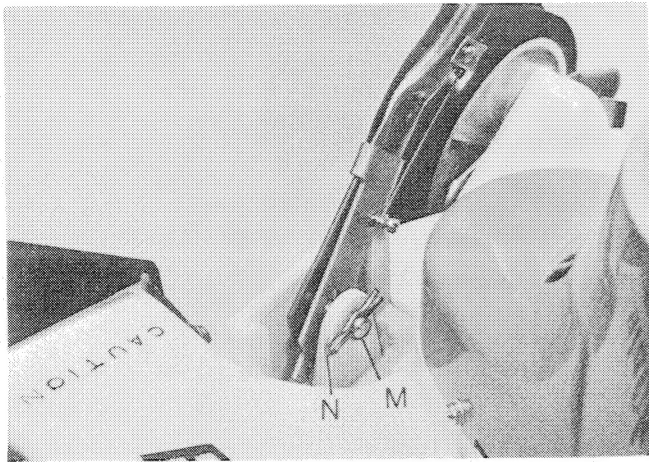
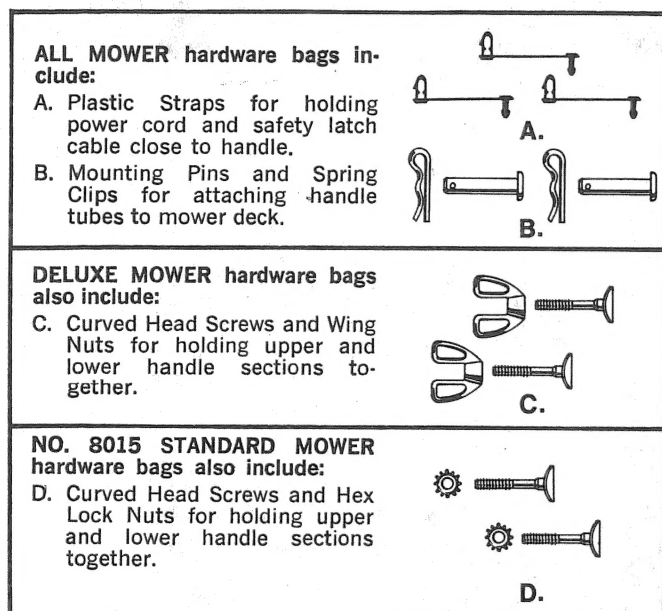
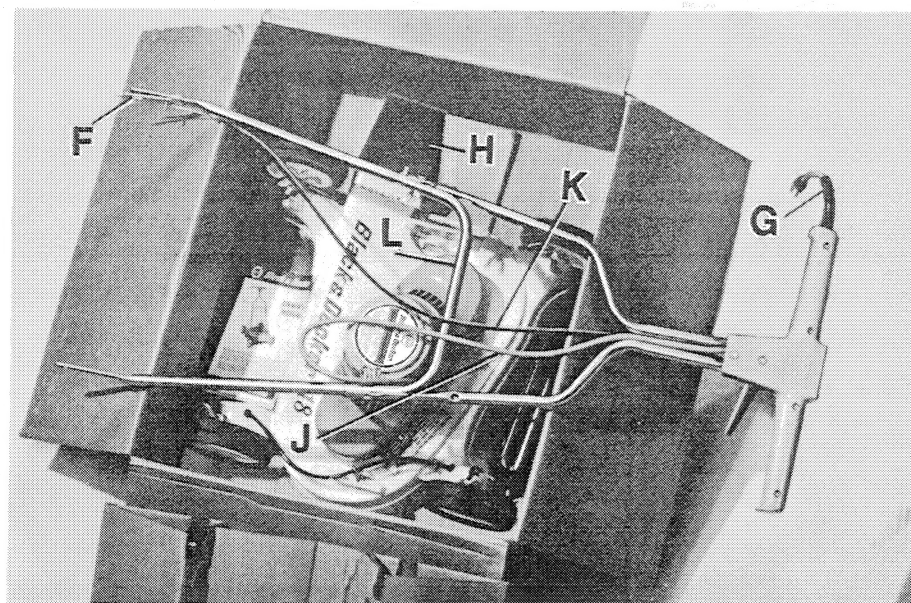
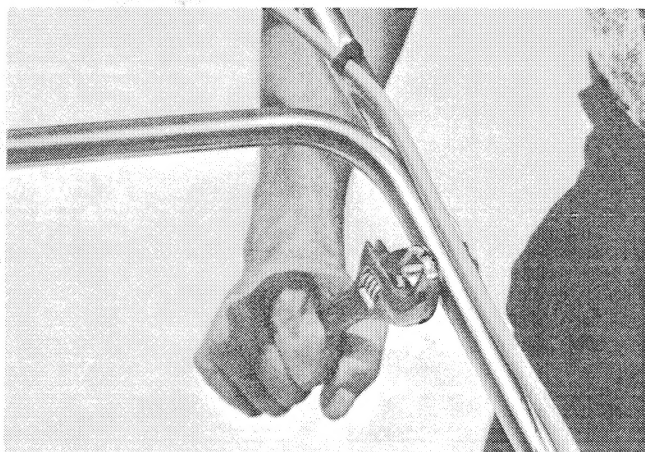

FIGURE 5
FIGURE 1
FIGURE 2
FIGURE 4
- (3) Attach handle to mower deck with 2 mounting pins "M" (Figure 5) and 2 spring clips "N". Pins and clips are item "B" in Figure 1.
- (1) Open carton and remove cardboard fillers and 2 plastic hardware bags (contents shown in Figure 1).
- (2) Without removing mower from carton, fasten upper and lower handle sections together as shown in Figures 2 & 3, with curved head bolts and wing nuts (Item "C", Figure 1).
No. 8015 MOWER ONLY — Use curved head bolts & hex nuts (Item "D", Figure 1) for handle assembly (Figure 4). This handle is not designed to fold for storage.
Handle must be assembled so that the sliding safety-latch "F" (Figure 2), and the power cord plug "G" are on the same side as the grass discharge opening "H". Place power cord "J" and safety latch cable "K" OVER handle cross-member "L".